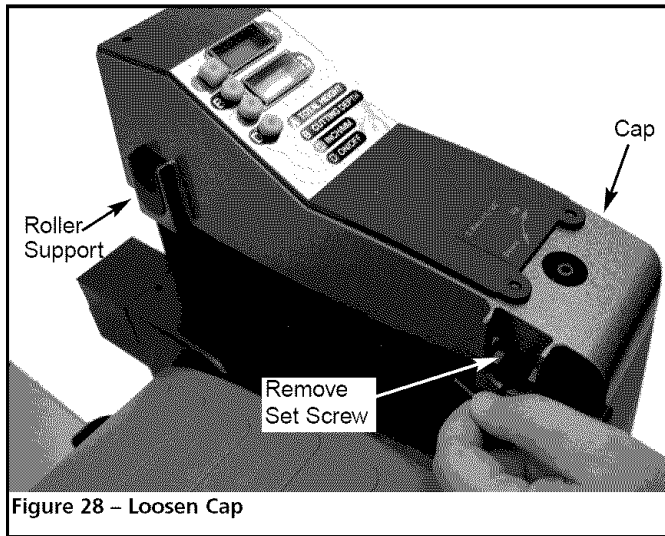

Figure 28 – Loosen Cap
- Remove return rollers. Pry roller supports up and out of cap. Remove set screw from each column beneath cap (see Figure 28).